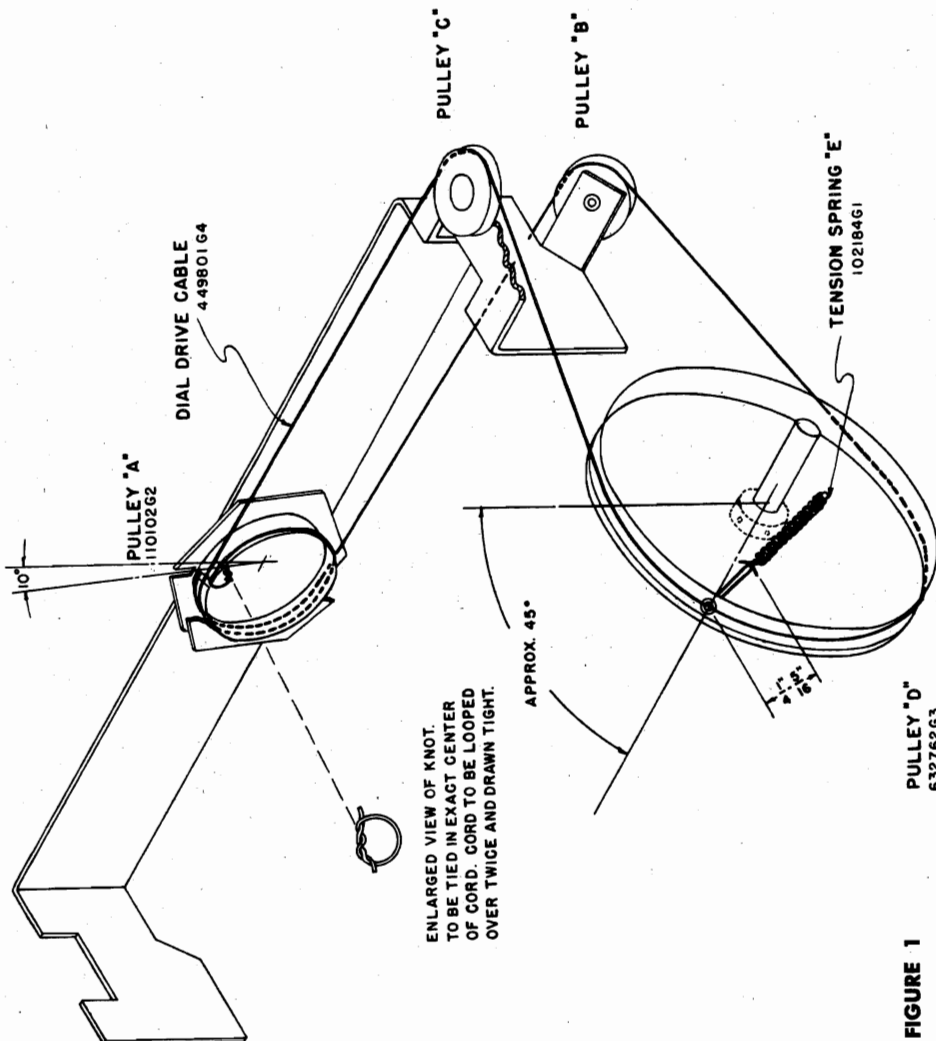

FIGURE 1
Completely unmesh the condenser gang and check the location of the hole or slot in pulley "D." If this hole is not approximately 45 degrees back from vertical as shown on Figure 1, loosen the two No. 6 Allen set screws in the hub of pulley "D" and slip the pulley on its shaft (while holding the condenser gang unmeshed) until the specified adjustment is obtained; then tighten one of the set screws securely. It will be shown later that this is a temporary setting. Next, tie a double knot in the exact center of a 25-inch length of dial cable and fold the cable back on itself so that the knot is at one end. The correct method for tying this knot is shown as an inset on Figure 1. Grasp the cable near the knotted end and slide it into the pulley slot so that the knot is against the inside rim of the pulley as shown in the sketch. The piece of cable nearest the dial frame should be wound in the direction shown for one-half turn; then over the lower pulley "B," around the bottom of the large pulley "D" and into the hole. Pull the cable taut and wrap the end around the small hook on pulley "D" temporarily.
Rotate the brass pulley designated "A" in Figure 1 To correct this condition, first remove the glass dial until the dial pointer strikes the stop at the high and loosen the pointer screw. Then while holding frequency end of the dial calibration. In this condition pulley "A" so that its slot is approximately ten degrees the slot in pulley "A" should be approximately vertical (when viewed from the rear) adjust the pointer until it is resting against the ten degrees to the left of being vertical—see Figure 1. If the slot in the pulley is in some other position under stop at the high frequency end of its travel. Then the above mentioned conditions, the pointer set screw securely and replace the glass dial. If the slot in the pulley is in some other position under stop at the high frequency end of its travel. Then the above mentioned conditions, the pointer set screw securely and replace the glass dial. If the slot in the pulley is in some other position under stop at the high frequency end of its travel. Then the above mentioned conditions, the pointer set screw securely and replace the glass dial.
1. Remove the signal generator lead from the 6SA7 grid and connect it to the radio antenna terminal through the .00025 mfd. capacitor. The ANT-LOOP switch (70) must be in the ANT. setting.
2. Check the tuning-dial pointer adjustment. When the plates of the tuning condenser are completely meshed, the dial pointer must be in line with the last calibration mark at the low frequency end of the dial. If it is not, loosen the set screws in the hub of pulley "D" shown on Figure 1 and make the necessary adjustment.
5. If the loop antenna trimmer is out of adjustment it should be set after the radio chassis is in the cabinet. Set the ANT-LOOP switch (70) to the LOOP position. Adjust the signal generator to 1400 kilocycles and connect its output to a loop containing approximately five turns of wire eight inches in diameter placed eighteen inches from the receiver loop and in the same plane.